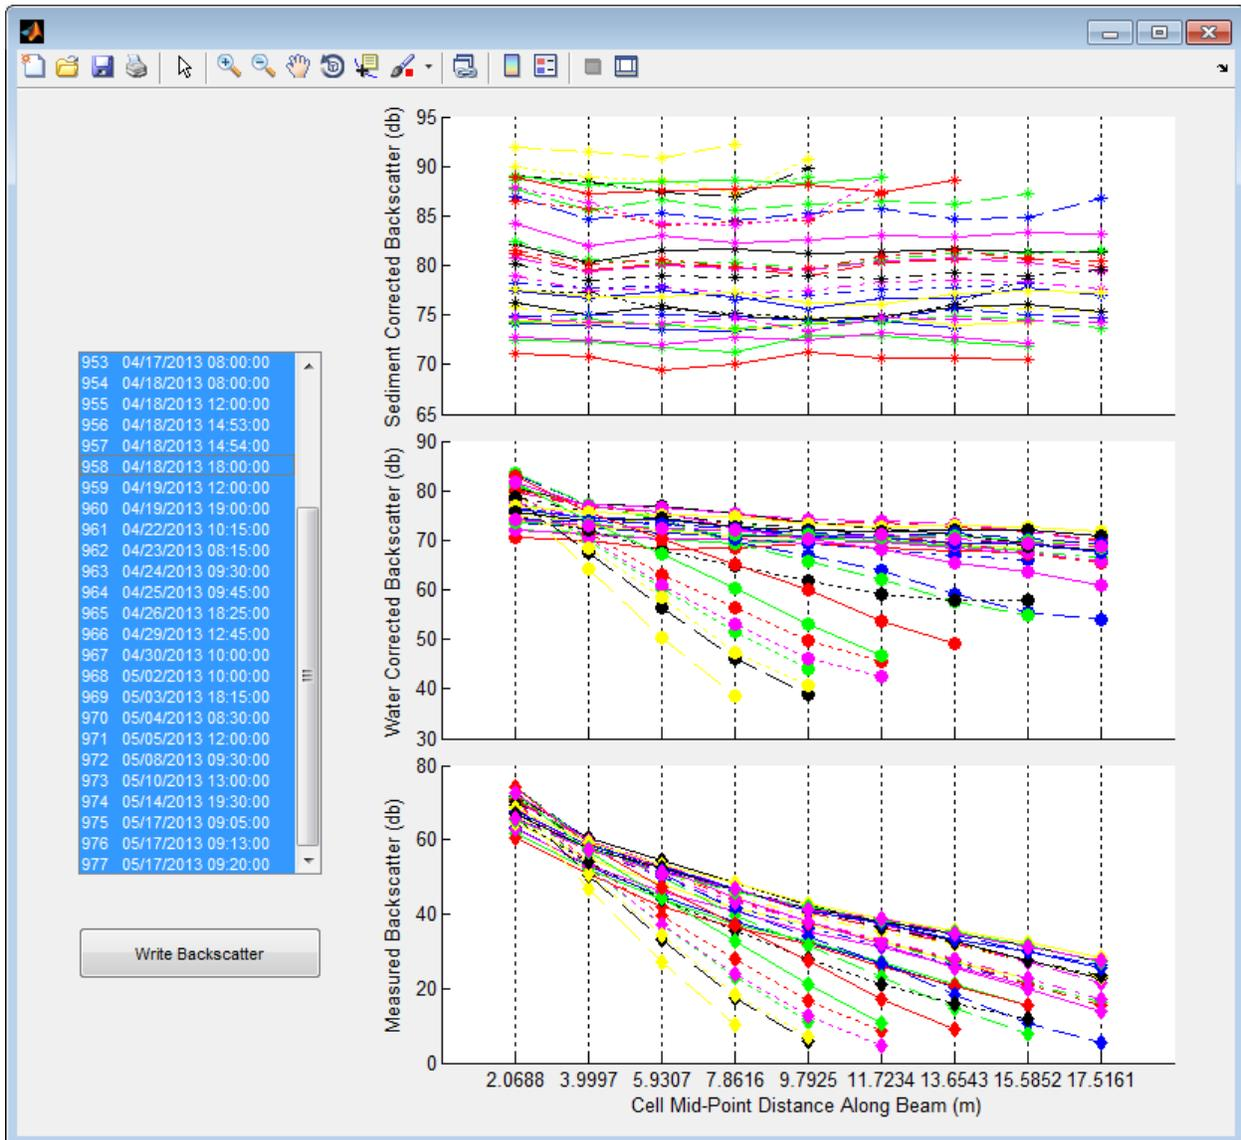

Figure 12 - Backscatter profile plotting window
When a valid Response Variable is matched with valid Predictor Variables, the Plot Backscatter button will be made available. When this button is clicked, a window with three sets of axes is displayed. From the top, the axes show Sediment Corrected Backscatter (SCB), Water Corrected Backscatter (WCB), and Measured Backscatter (MB), all in decibels, versus the cell mid-point distance along the acoustic beam (Figure 12). Also shown in the window is a list of observation numbers and times from the model. The observation times are taken from the primary dataset. Only the backscatter samples that correspond to observations in the linear model are shown. Selecting sample times in the list displays the plots of the backscatter values on the axes. Multiple observations can be selected and plotted.